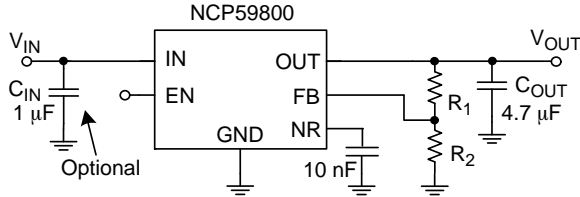

Figure 3. Typical Application Schematics
The NCP59800 regulator is equipped with Noise Reduction pin (NR) for noise sensitive applications. A noise reduction capacitor (C_{NR}) at the NR pin bypasses noise generated by the bandgap reference. This family of regulators offers sub-bandgap output voltages, current limit, and thermal protection, and is fully specified from -40°C to +125°C, assuming resistors with zero error. For the actual design, pay attention to any resistor error factors. Figure 3 gives the Typical Application Schematics.